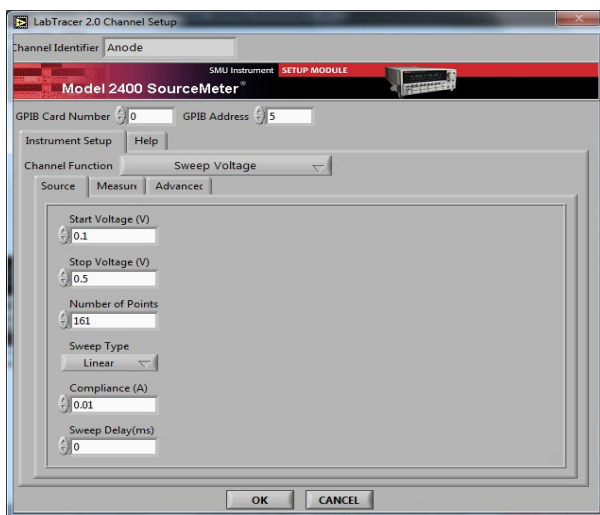

Figure 2. LabTracer Setup window with Source tab selected.
- Select Setup 2400 found under the image of the instrument. A series of tabs can be selected to set measurement parameters. The appearance of the window with the Source tab selected is shown below in Figure 2.